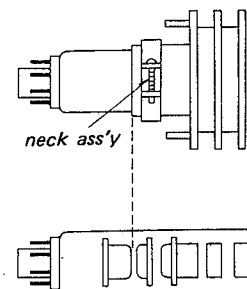
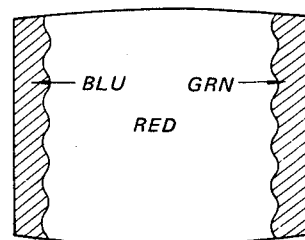
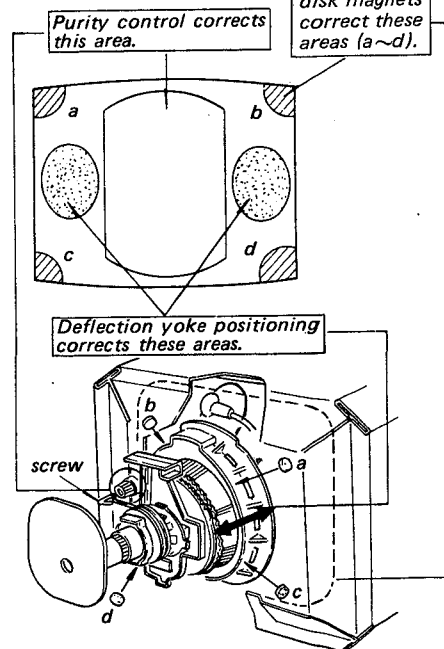

Fig. 3-2.
Fig. 3-3.
Fig. 3-4.
4. Position neck ass'y as shown in Fig. 3-2.
5. Disconnect leads ⑤ and ⑥ on the C board.
6. Adjust purity control to center vertical red band as shown in Fig. 3-3.
- ... Connect lead ⑥ on the C board.
- Disconnect leads ④ and ⑤.
- ... Connect lead ⑤ on the C board.
- Disconnect leads ④ and ⑥.
10. Check if mislanding appears at corners a~d as shown in Fig. 3-4. If mislanding is observed, correct it as shown in Fig. 3-4.